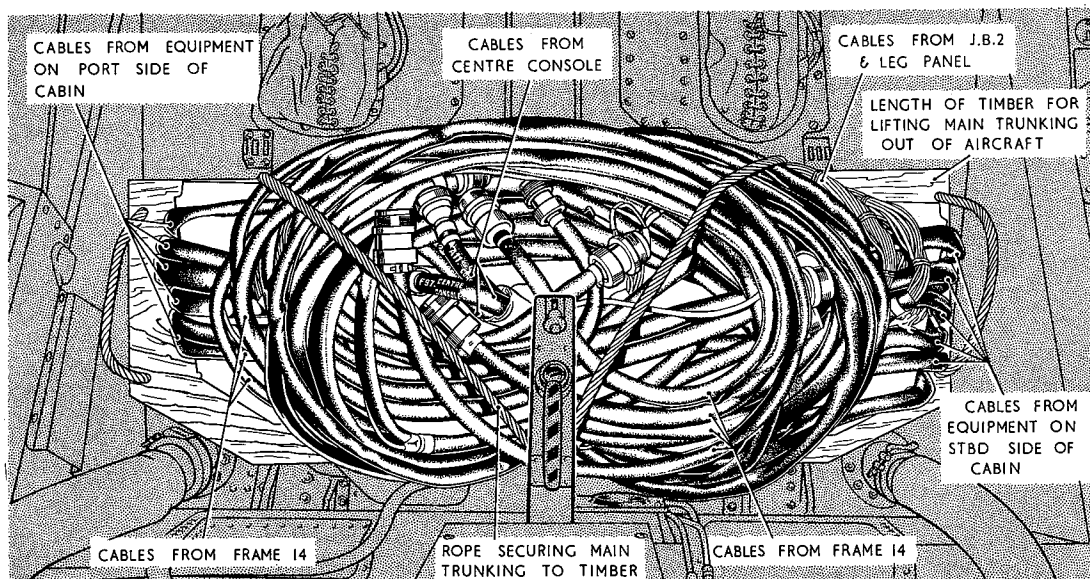

Fig.2 Main trunking ready for removal
- (5) Remove the lids from the trunking. Release the trunking from the aircraft's structure by removing the ten internal attachment bolts and replace the lids on the trunking.
- (6) Coil the cable assemblies disconnected from junction box number 2 and from the leg panel back to the trunking, fold these assemblies across the top of the trunking and secure in position with lengths of suitable cord, to prevent them slipping off when the trunking is lifted out of the cabin.
- (7) Fold the cable assemblies disconnected from the equipment on each side of the cabin; on to those already in position on the top of the trunking and secure in place with cord.
- (8) Coil the cable assemblies disconnected from frame 14 and those from the equipment at the rear of the cabin back to the trunking, fold the assemblies over the trunking and secure to those already in position.
- (9) The trunking, complete with its cable assemblies (fig.2) may now be